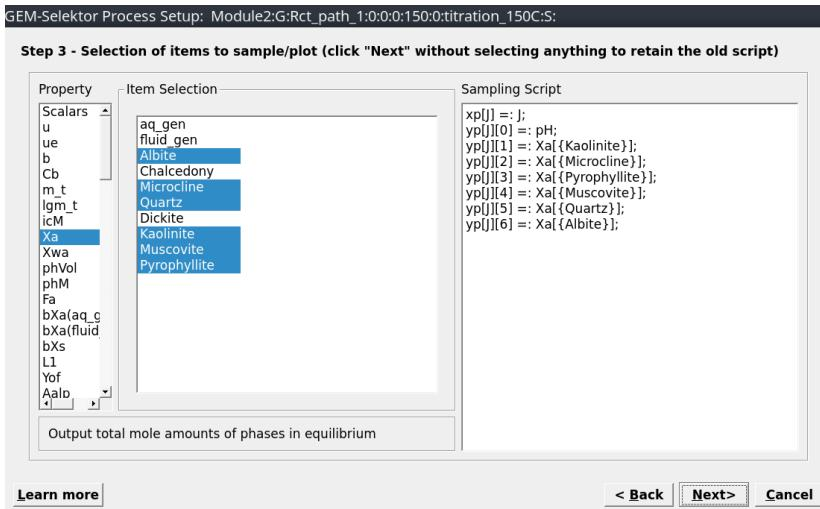

Figure 2.9: Choose the results to be plotted, including pH and mole minerals.
- Select items to be plotted (**Scalars**: pH; **Xa**: Kaolinite, Pyrophyllite, Microcline, Muscovite, Albite and Quartz) as shown in Figure 2.9.